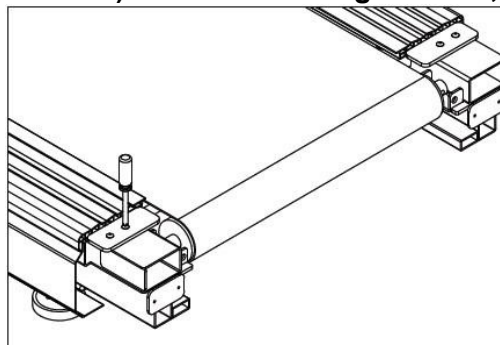

Figure 4.6.1
8) As shown in Figure 4.6.1, use a screwdriver to remove the screws on the rear cover.